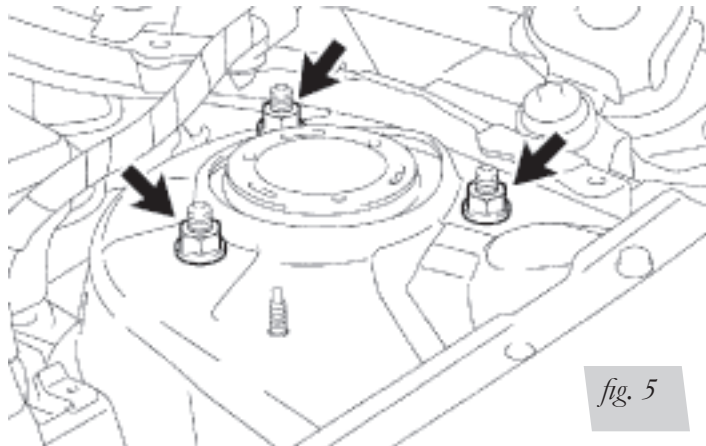

fig. 5
5. Support the hub assembly. Remove the three upper strut mount bolts within the engine compartment (fig. 5).